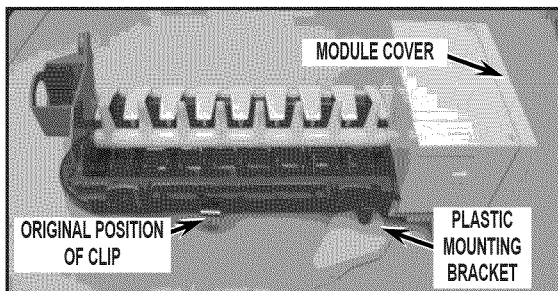

FIGURE 1
- Remove module cover from new ice maker and discard. See *Figure 1*.
- Remove plastic mounting bracket and discard but save the screw for use later. See *Figure 1*.
- Turn ice maker over and reposition the clip closer to module without damaging heater. See *Figures 1 and 2*.